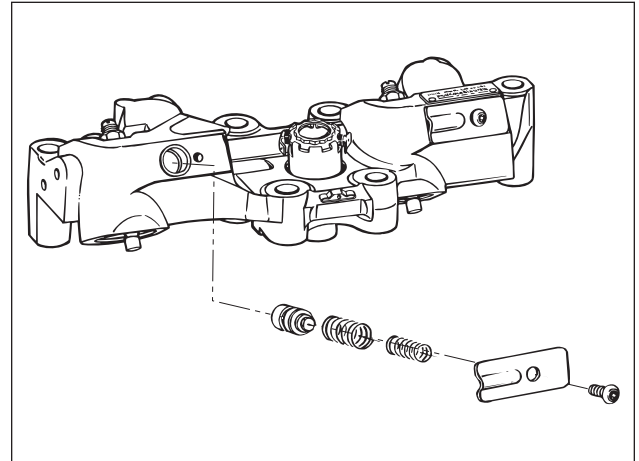

FIG. 12
3. Slowly remove the cover until spring force ceases, then remove the two control valve springs (see Fig 12).